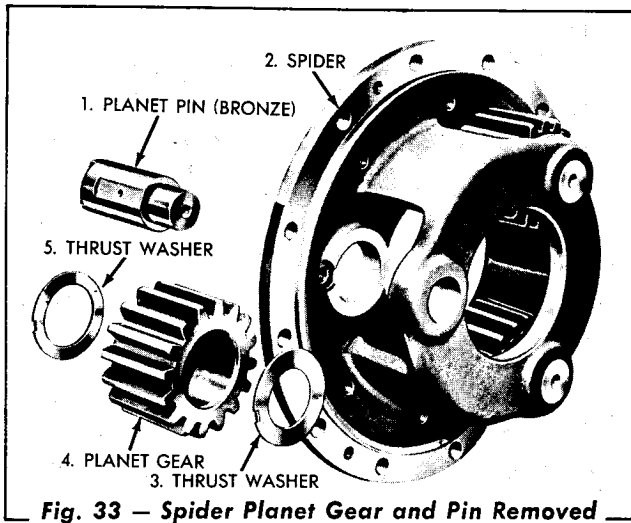

Fig. 33 — Spider Planet Gear and Pin Removed
- a. Position the spider face down, on wooden blocks. Using a suitable press, press out the planet pins from the inside out (Fig. 33).